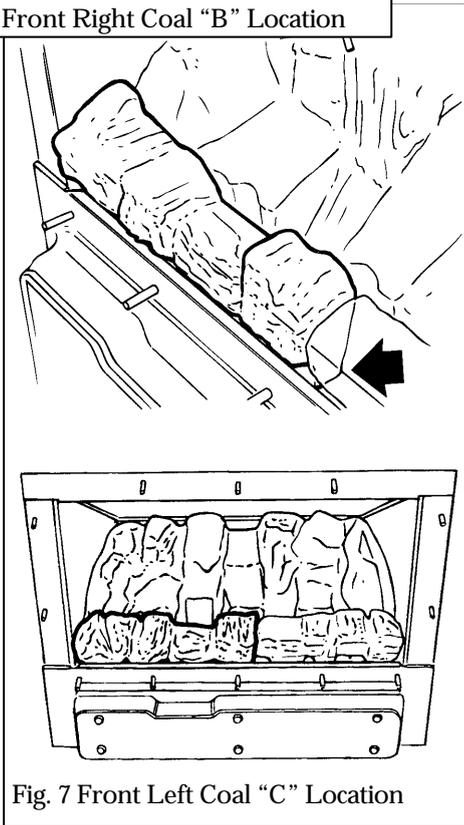

Fig. 7 Front Left Coal "C" Location
3.3.4 Close any gap between the two front coals by sliding them together to meet at the centre. See figure 7.